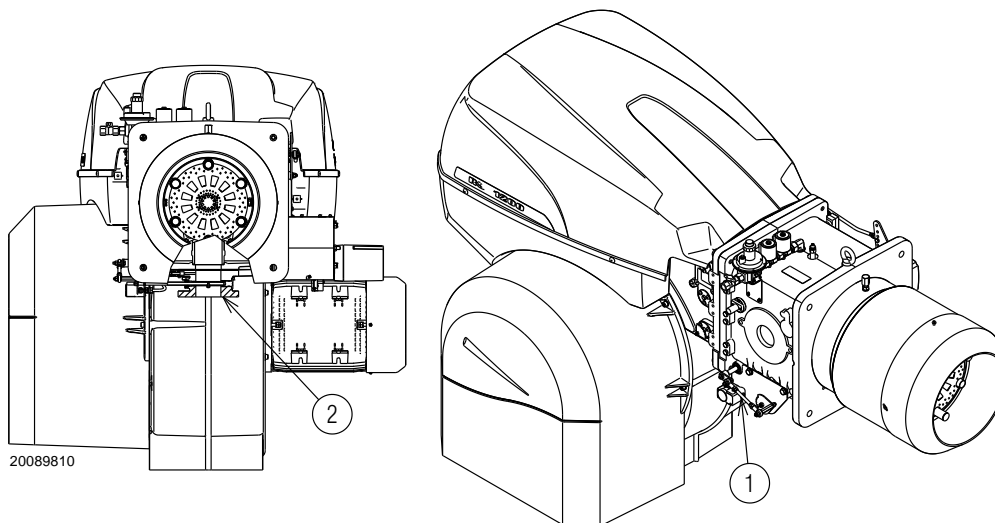

Fig. 21
Gas pressure measured at the test point 1) (Fig. 21), with:
Pressure loss at gas butterfly valve 2) (Fig. 21) with maximum opening: 90°.
- Subtract the combustion chamber pressure from the gas pressure measured at test point 1) (Fig. 21).
Gas pressure at test point 1) (Fig. 21) = 44.2 mbar
To calculate the required gas pressure at test point 1) (Fig. 21), set the maximum modulating output required from the burner operation:
- Read, on the right (column 1), the pressure at the test point 1) (Fig. 21).
Pressure required at test point 1)(Fig. 21).